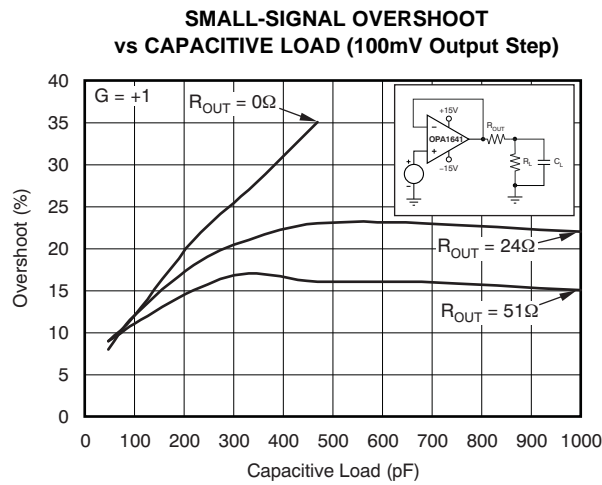
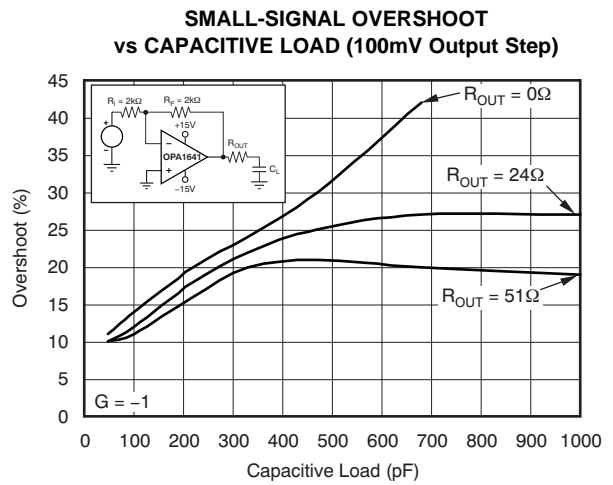

Figure 21.
Figure 22.
(2) See Figure 21 and Figure 22.
Figure 21 and Figure 22 illustrate graphs of *Small-Signal Overshoot vs Capacitive Load* for several values of  $R_{OUT}$ . Also, refer to Applications Bulletin AB-028 (literature number SBOA015, available for download from the TI web site) for details of analysis techniques and application circuits.